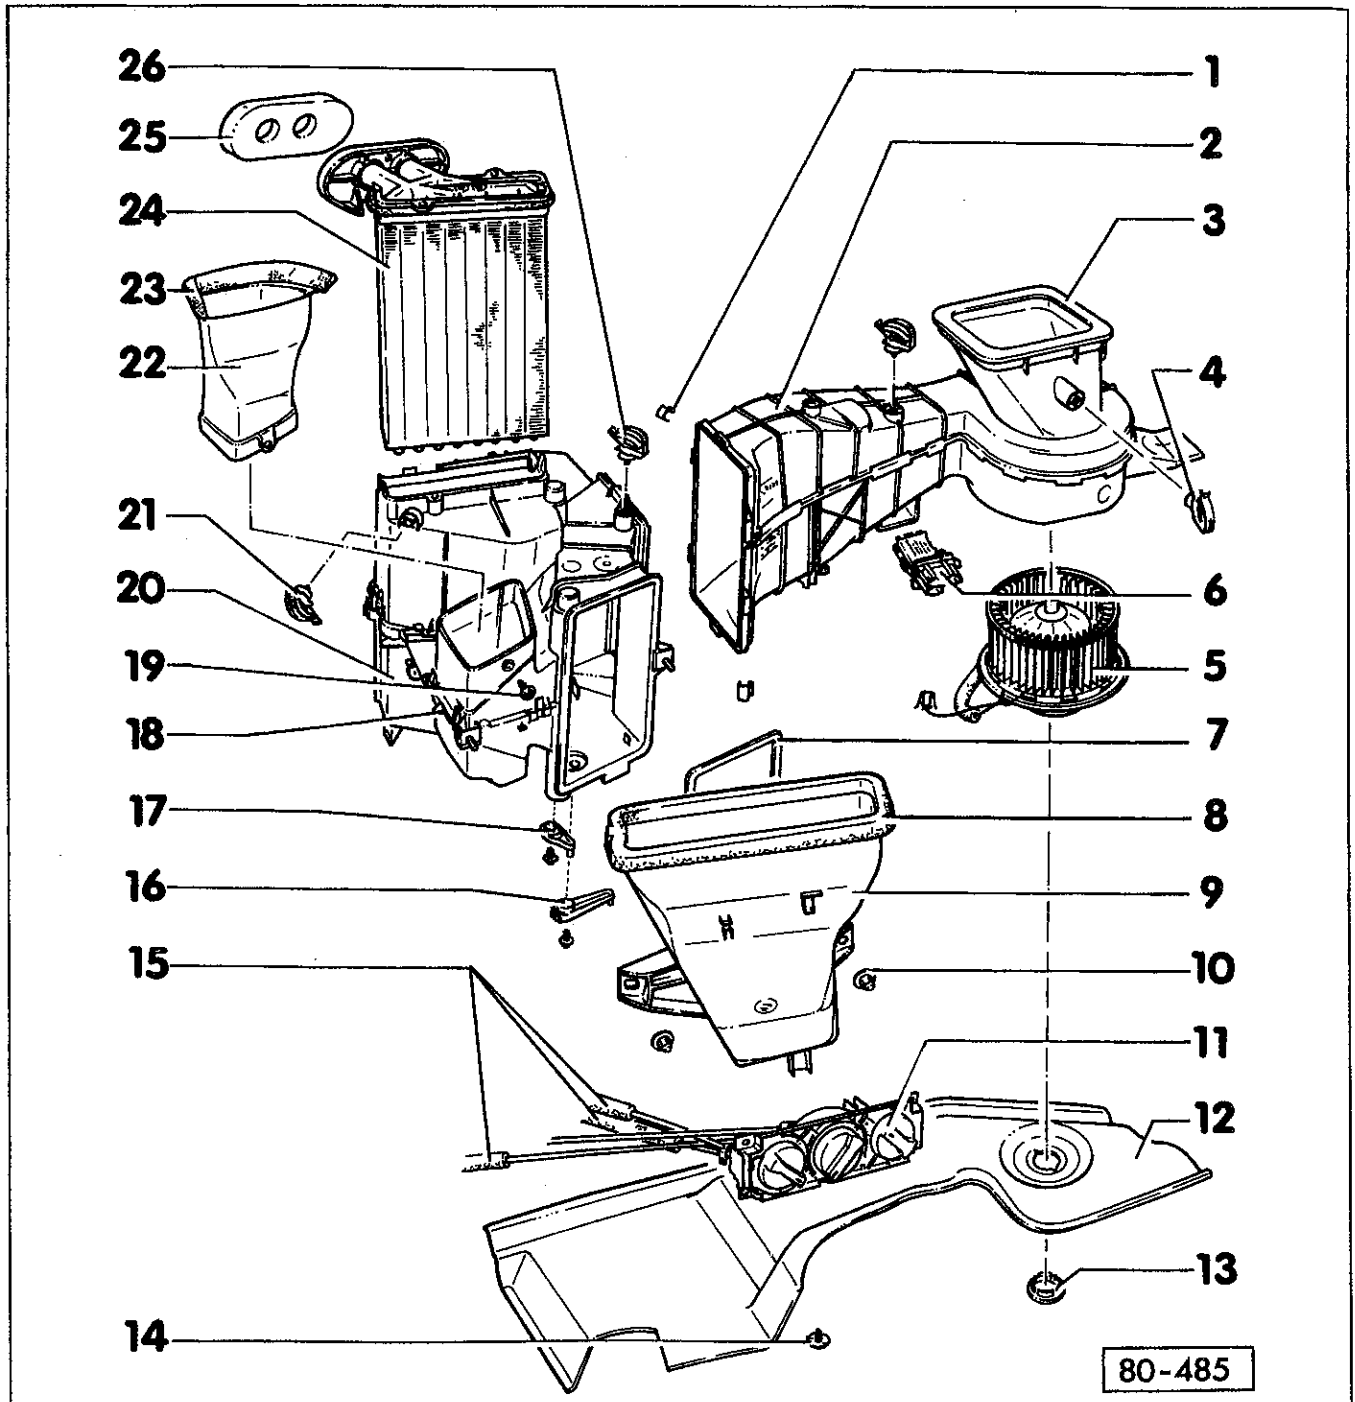

Fig. 3. Heater box/evaporator housing and related components.
6. Remove heater box/evaporator housing from car. See Fig. 3.